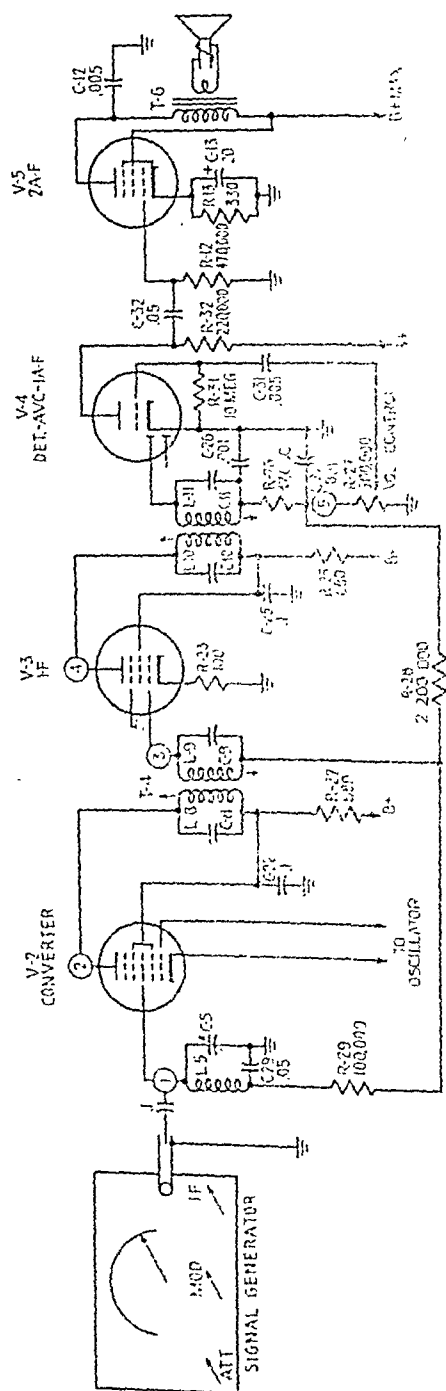

FIG. 15-17. Signal check for locating trouble in an i-f amplifier.
The test oscillator, receiver, and output meter are connected as shown in Fig. 15-17. The signal generator is adjusted for modulated output on the i-f band. The receiver is adjusted for maximum volume, minimum bass response, and maximum selectivity (if there is such a control), the r-f portion is made inoperative by shorting the oscillator section of the gang tuning capacitor. Let us assume normal operation of the audio amplifier, as proved by a normal response when an audio test signal is applied to point ②, the input of the a-f amplifier, and no response or weak response when a modulated signal at the intermediate frequency is applied to point ①, the converter signal grid.
Step 1. The test lead from the signal generator is moved to point ②, the converter plate.